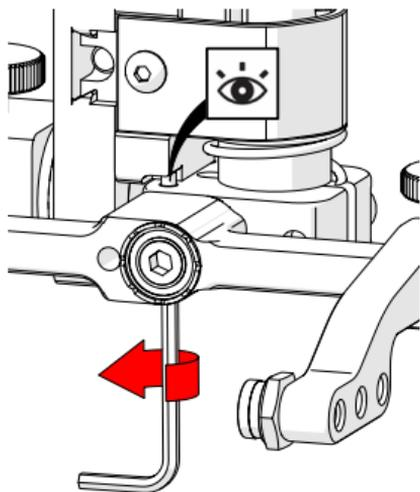

Fig. 86 - Raise opposite 90° stop post
8. Raise the stop post on the opposite side until the side of the post contacts the 90° stop point on the probe holder's base (*Fig. 86*).